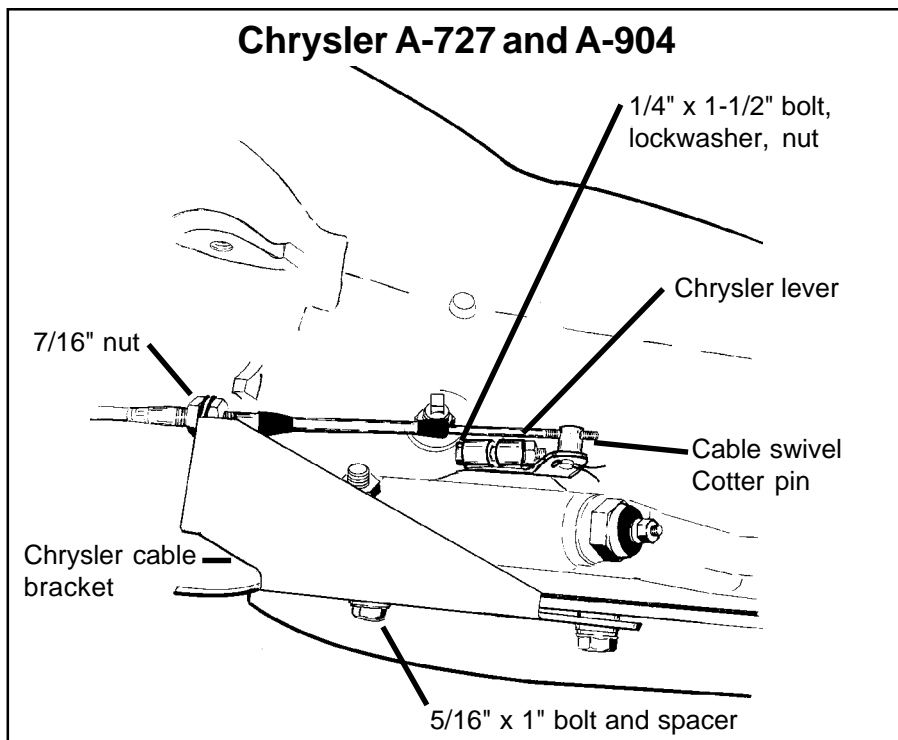

Figure 8
STEP 21. If you have not already done so, loosen the pinch bolt on the throttle lever on the transmission. This is the lever on the small diameter shaft. Pry the lever off with a screwdriver and allow the linkage to hang free. Remove and discard the stock shift lever and the stock shift linkage. Install the **B&M** selector lever in position and tighten the pinch bolt securely (**See Figure 8**). Make sure the lever is not pushed down so far as to touching the transmission case. This will cause the lever to bind on the case. The lever should travel smoothly from front to back with a positive click in each gear position. Install the stock throttle lever in position on the small diameter shaft as removed and tighten the pinch bolt securely. The throttle lever must operate smoothly.
STEP 22. Remove the two transmission oil pan bolts directly below the shift lever. Install the cable bracket in position with the two spacers between the pan and the bracket (**See Figure 8**). (If your transmission is equipped with a cast aluminum oil pan these spacers can be omitted.) Install the two 5/16-18 x 1.00" pan bolts supplied and tighten to 12-13 lb.ft. Do not over-tighten as this can damage the pan gasket.